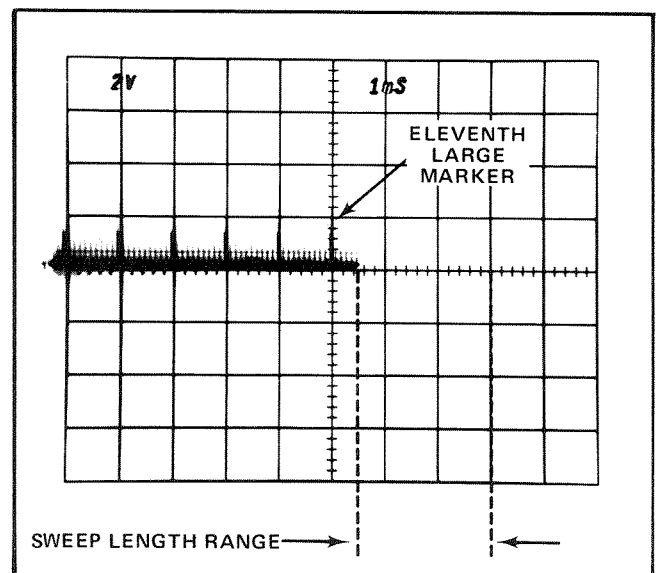

Fig. 5-12. CRT display when checking sweep length.
c. Move the eleventh 1 ms marker to the center vertical line with the horizontal POSITION control. See Fig. 5-12.